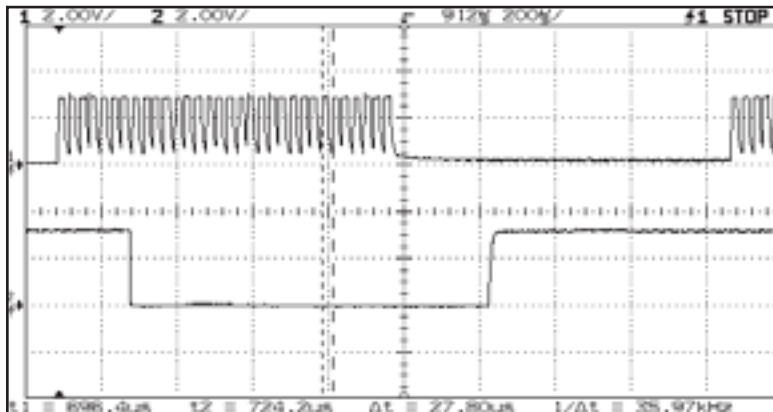

Figure 6
- ❑ **Figure 6** shows the carrier frequency from the remote control on top and the demodulated signal sent to the microcontroller from the receiver on the bottom. When the signal is present, as shown on the left side of the graph, the output to the microcontroller is low. The output is high when the signal is completely modulated, as shown on the right side. Notice the delay of roughly 200us between the start of a bit period and the output change from the sensor. This is another protection to avoid sending false information by ensuring that a signal is actually present before making a change.